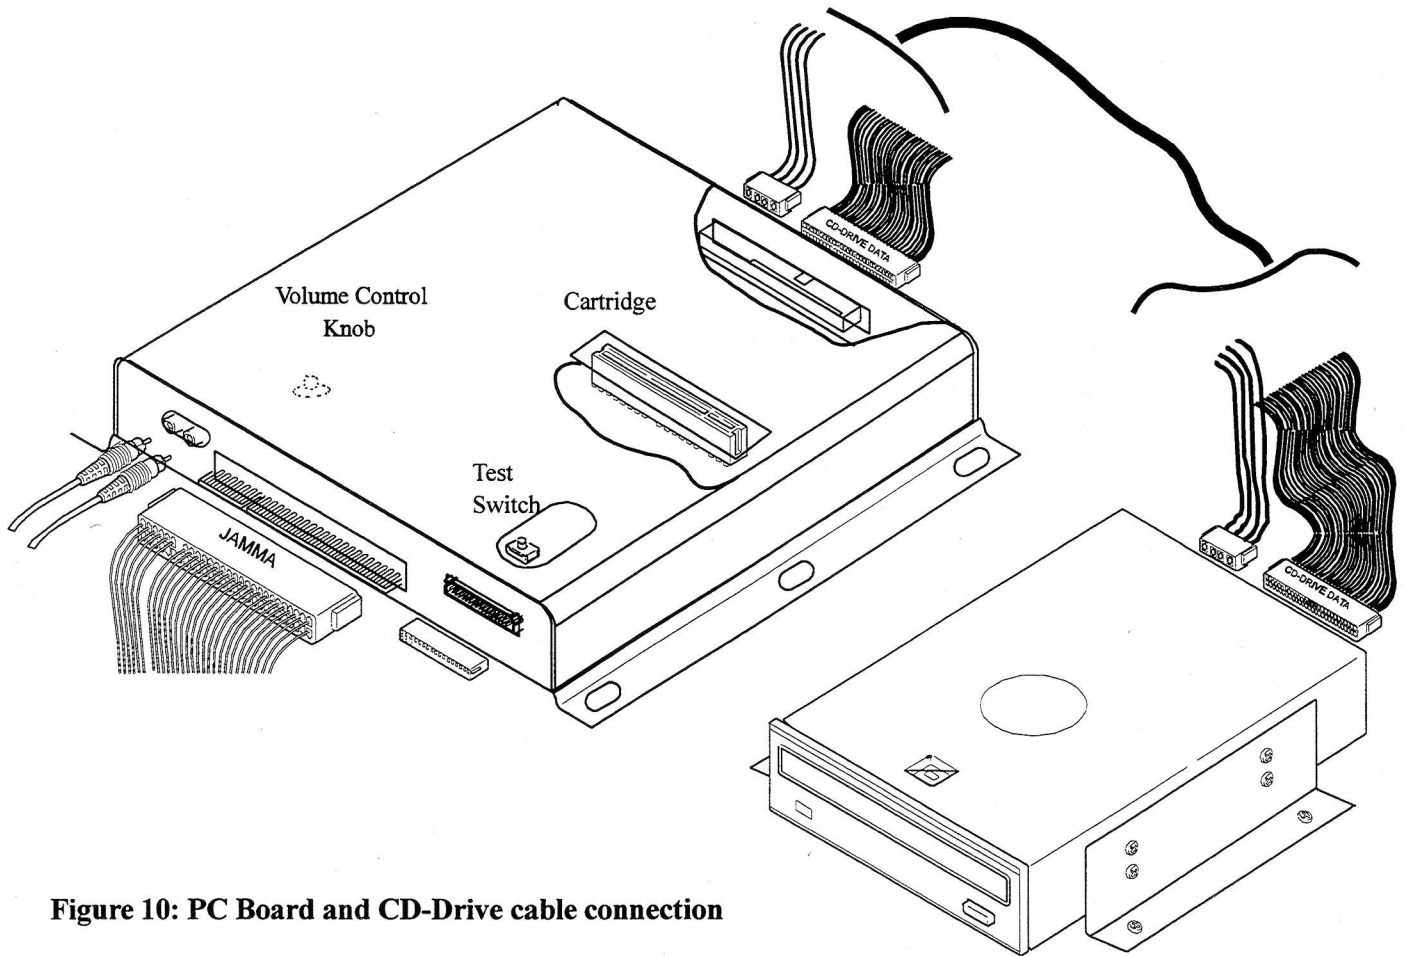

Figure 10: PC Board and CD-Drive cable connection
31. Attach Power and Data Cable to CD-Drive. Connect other end to SCSI combination connector on the main PCB (Figure 10).
32. Connect the JAMMA harness connector to the edge connector on the PC Board (Figure 10).
33. Attach the auxiliary cable connector to the PC Board. (Figure 10).
34. If you elect to use Q\_Sound Audio Amplifier, connect audio cable to audio output on the PC Board. (Figure 10).
34. After the CD-ROM is installed, the game is playable. Adjust the speaker volume by turning the volume control knob clockwise to increase volume, or counterclockwise to decrease volume (see Figure 10)